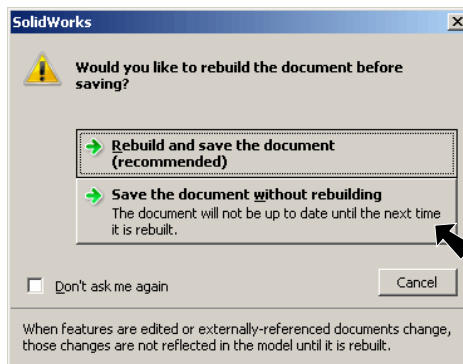

Fig. 47
Step 8. Click **Save the Document without rebuilding**, **Fig. 47**.